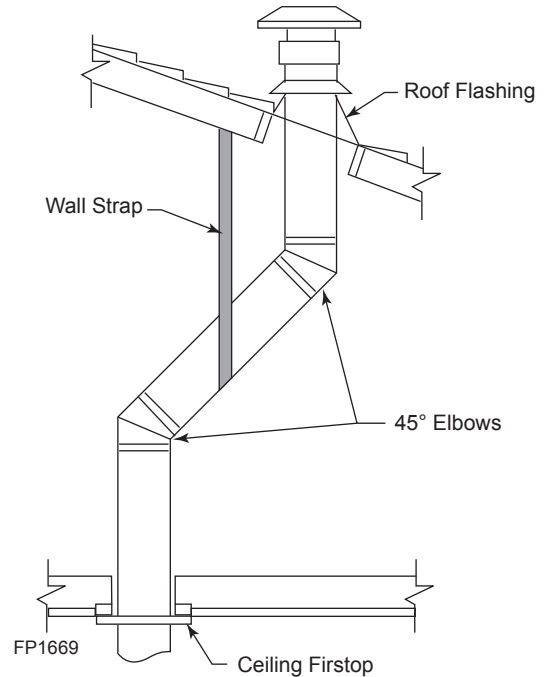

Figure 32 - Offset with Wall Strap and 45° Elbows
1. Determine the route your vertical venting will take. If ceiling joist, roof rafters or other framing will obstruct the venting system, consider an offset. Refer to Figure 32 to avoid cutting load bearing members.
NOTE: If an offset is needed to avoid obstructions, you must support the vent pipe every three (3) feet. Use wall straps for this purpose. Page 23, Figure 32. Whenever possible, use 45° elbows instead of 90° elbows. The 45° elbow offers less restriction to the flow of the flue gases and intake air.